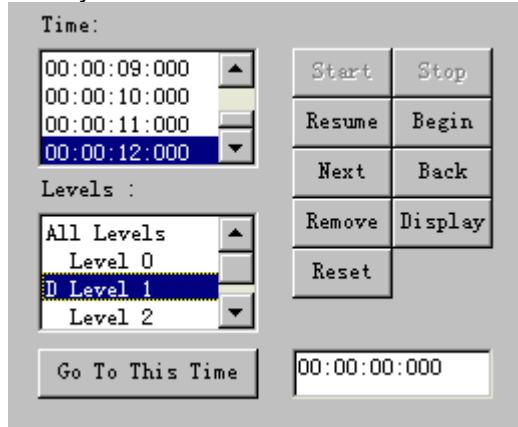

Figure 374: Remove layer panel.
- Select the removed layer, as in Figure 374
‘D’ will not be shown before the level name, as in Figure 374